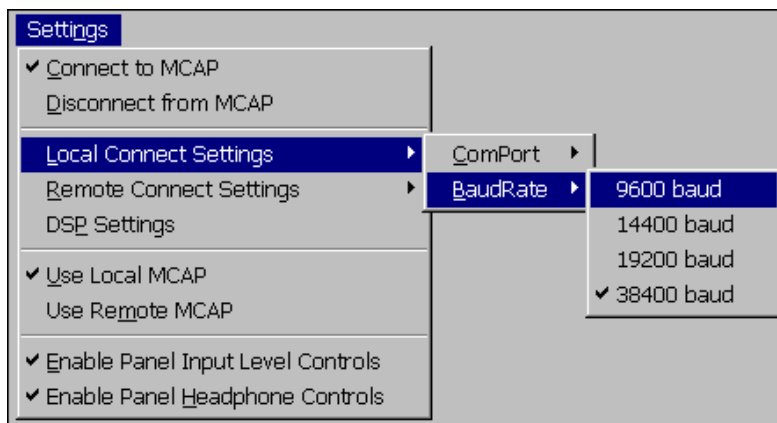

Figure 6-2 BaudRate Selection Menu
- e. When the pulldown menu appears, click on "Local Connect Settings", then "Baud Rate". The display will now appear as follows (Figure 6-2):